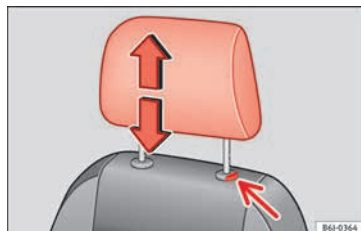

Fig. 141 Adjusting and removing the head restraints.
- Press the button » Fig. 141 (arrow).